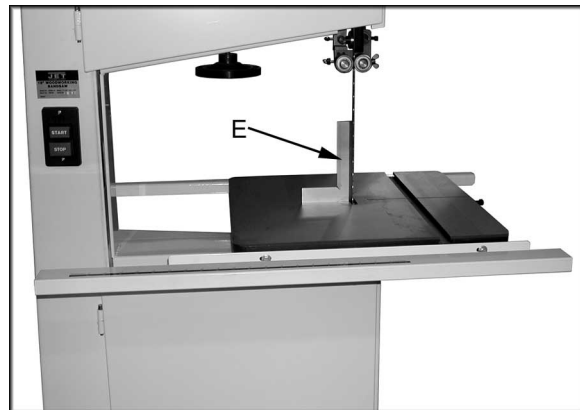

Figure 8
3. Use a square (E, Figure 8) placed on the table and against the blade to see if the table is 90 degrees to the blade.